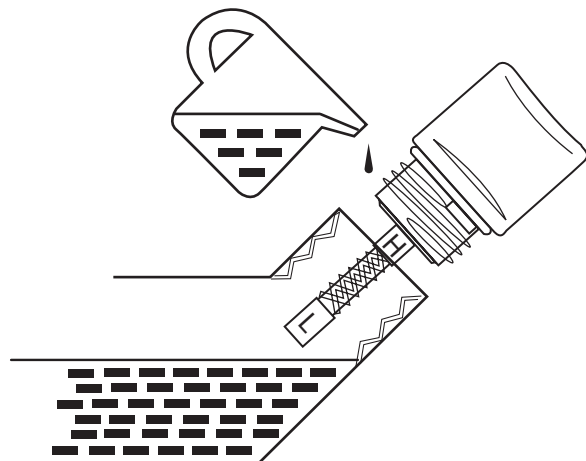

Figure 27 – Checking Oil Level
- Acceptable Oil Level – Oil is visible on the cross-hatches between the H and L lines on the oil fill plug/dipstick (*see Figure 27*).